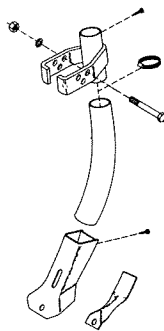

Figure 1A
- 1A) This seed boot (Figure 1A), can be used on 8", 9" or 12" spacing and can be used for seeding or banding. The slightly flared boot gives 4 1/2" seed broadcast directly behind the shank. The design of this boot also allows it to be used in clay soils.